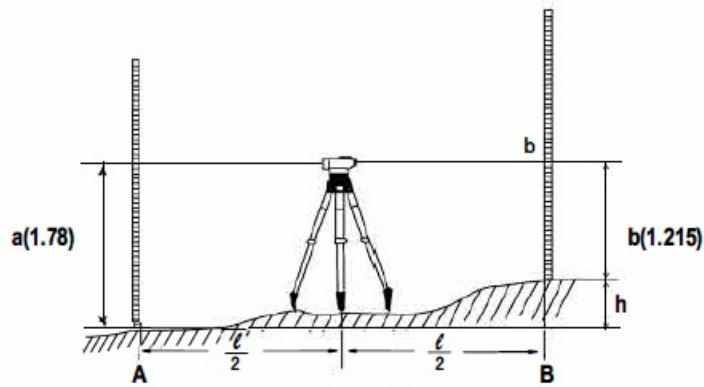

Figure 3
- Put the levelling rods A and B in the vertical position. Place the device between the leveling rods A and B (Fig. 3).
In Figure 3, for example, the height difference is 0.565m. Subtract the value of height B from the value of height A.